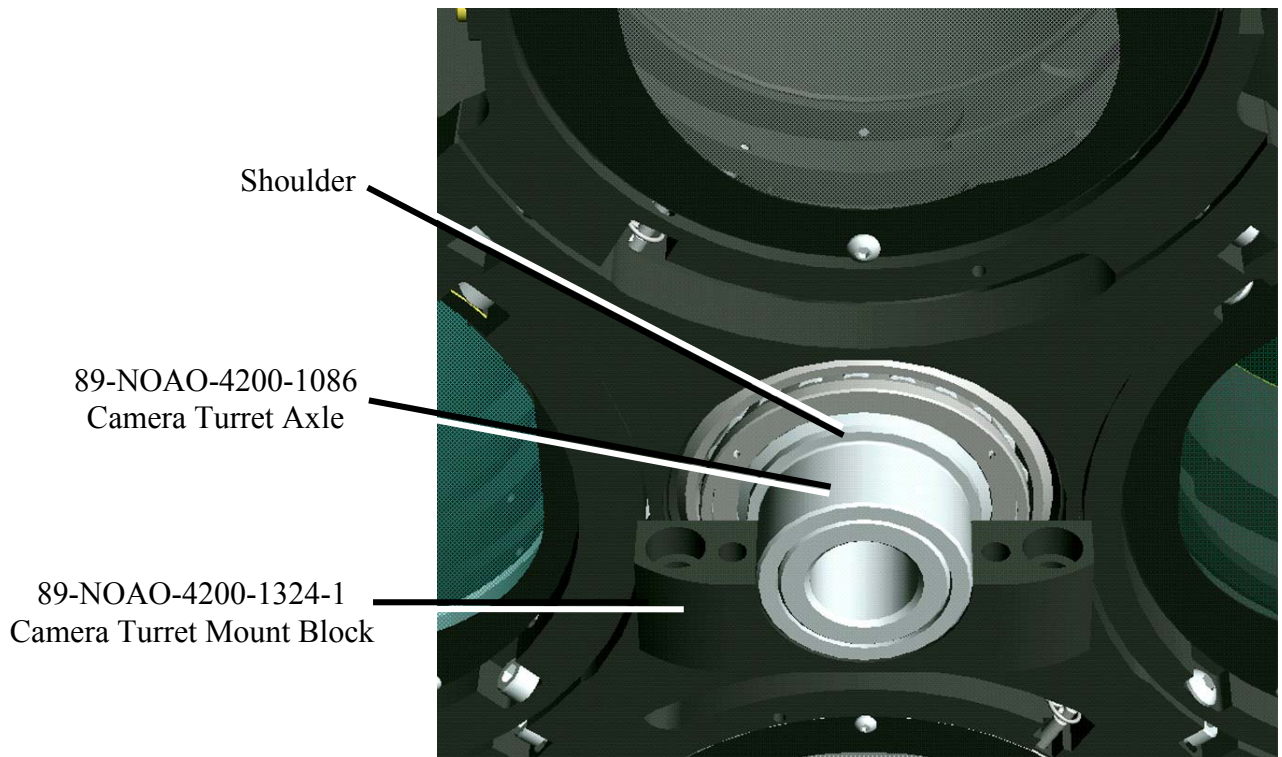

Figure 8.5.6.3. At installation, ensure that shoulder on Camera Turret Axle seats against Camera Turret Mount Block.
Figure 8.5.6.1. (Left) Remove Bottom Camera Cover. (Right) Remove 89-NOAO-4200-1296-1,-2 Camera Turret Clamp Blocks. Caution: Do not remove 89-NOAO-4200-1324-1,-2 Camera Turret Mount Blocks. Mount Blocks define alignment of camera turret and removal will result in loss of camera alignment.
Figure 8.5.6.2. Attach lift strap to lifting bracket on 89-NOAO-4200-0038 Camera Turret Assembly and carefully lift Camera Turret Assembly out of Main Optical Bench.
- E. Install (2) jackscrews into 89-NOAO-4200-1153 Bottom Camera Cover jack screw holes and lift Bottom Camera Cover from Main Optical bench with jack screws.
- J. **Caution: Do not remove 89-NOAO-4200-1324-1,-2 Camera Turret Mount Blocks (2).** The Mount Blocks define alignment of camera turret. Removal of these blocks will result in loss of camera alignment.
- A. When re-installing Camera Turret Assembly into Main Optical Bench, ensure that shoulder on Camera Turret Axle seats against Camera Turret Mount Block. See figure 8.5.6.3.